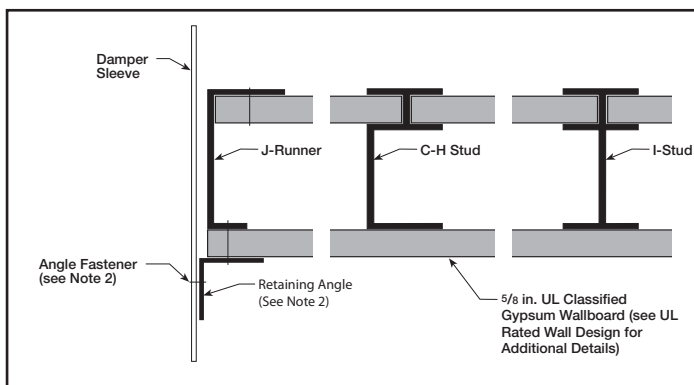
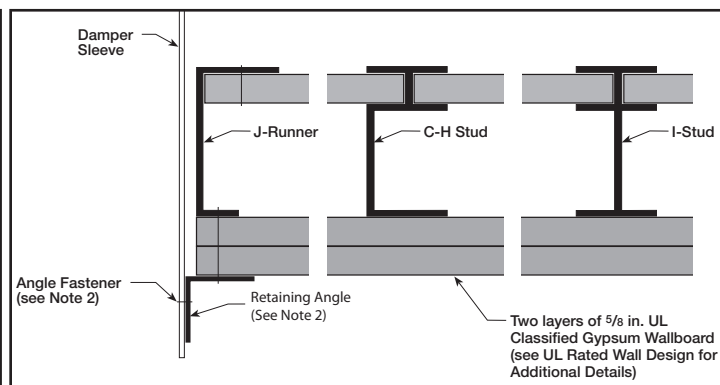

Figure 3: 1 Hour Shaftwall Rating
Figure 4: 2 Hour Shaftwall Rating
2. Fire damper and sleeve assemblies 80 in. W x 50 in. H (2032mm x 1270mm), 50 in. W x 80 in. H (1270mm x 2032mm), or 40 in. W x 100 in. H (1016mm x 2540mm) and smaller only require retaining angles on one side of the partition (See **Figure 3** and **Figure 4**). Retaining angles must be attached to the sleeve and the partition. Larger damper assemblies require retaining angles on both sides of the partition. Retaining angles must be attached to the sleeve.